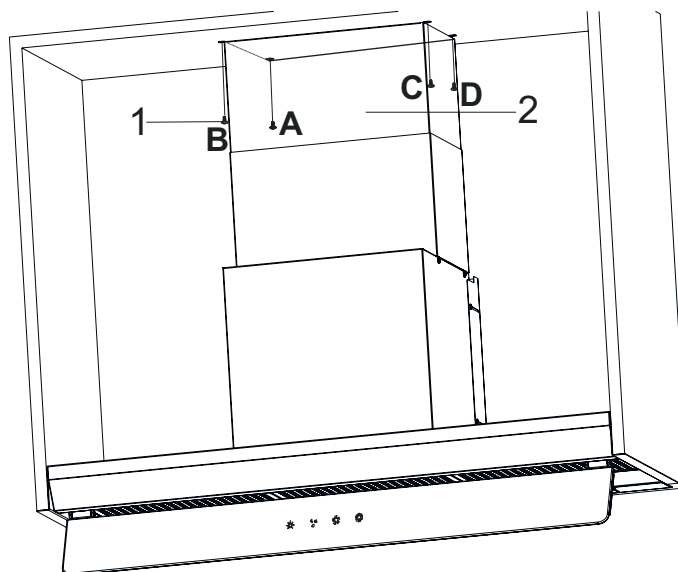

Fig. 21
7. Pull the interior flue up to the top section of the cabin (Fig. 21).
Using the 4 connection screws through the A, B, C, D points to the kitchen cabin (Fig. 21).